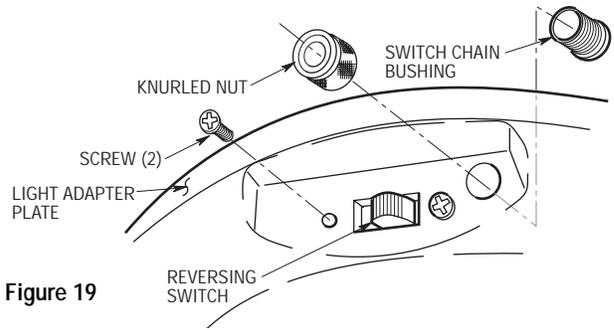

Figure 19
4. Position the switch chain bushing in the hole in the light adapter plate (Figure 19) and secure using the knurled nut.
7. Position the reversing switch in the slot in the adapter plate and secure using two screws (Figure 19).